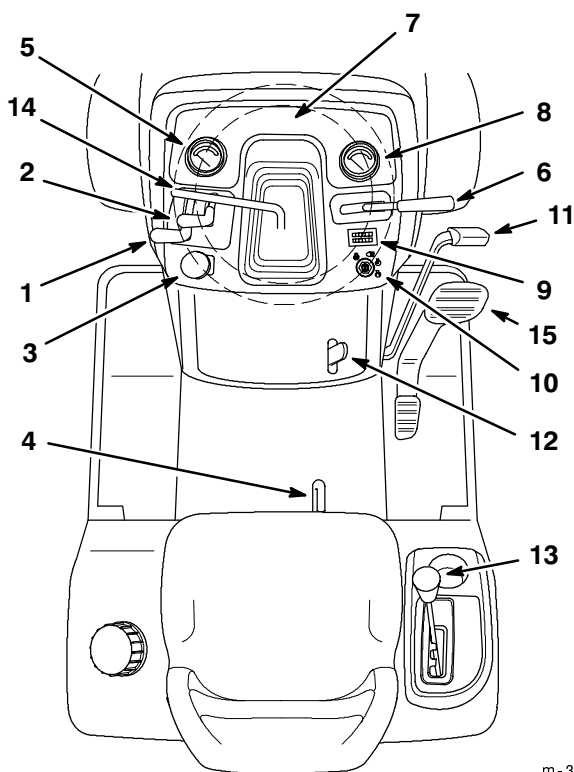

Figure 11
Become familiar with all the controls (Fig. 11) before you start the engine and operate the machine.
1. Push the brake pedal (Fig. 11) down and hold it.
2. Lift the parking brake lever (Fig. 11) up and gradually take your foot off the brake pedal. The brake pedal should stay down.
1. Push down on the brake pedal (Fig. 11).